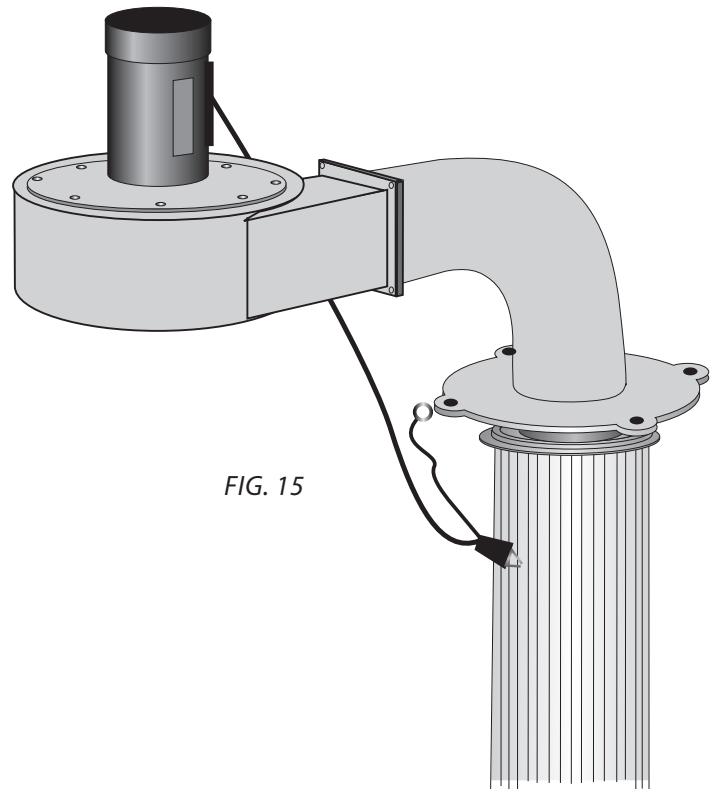

FIG. 15
- 14** To ground the filter, attach the ring terminal on the braided ground wire from the motor to a bolt on the filter plate, under the nut, then attach the alligator clip to the filter cage [FIG. 15].